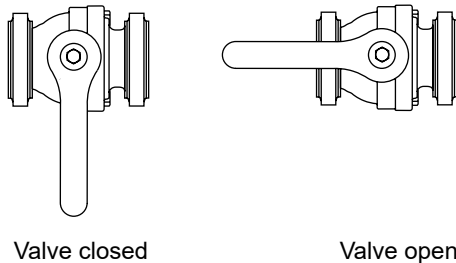

Fig. 4
The valve is open (water flows through) when the handle is in-line with the valve body. The valve is closed (water cannot flow) when the handle is perpendicular to the valve body. (See Fig. 4)
9. Move the side port valve to OPEN (Fig. 4). You may notice air bubbles in the tank as the water starts to flow. If the pump fails to prime, stop the engine and repeat step 4.
8. Move the side port valve to OPEN (Fig. 4).
6. Move the spray bar valve to OPEN (Fig. 4).